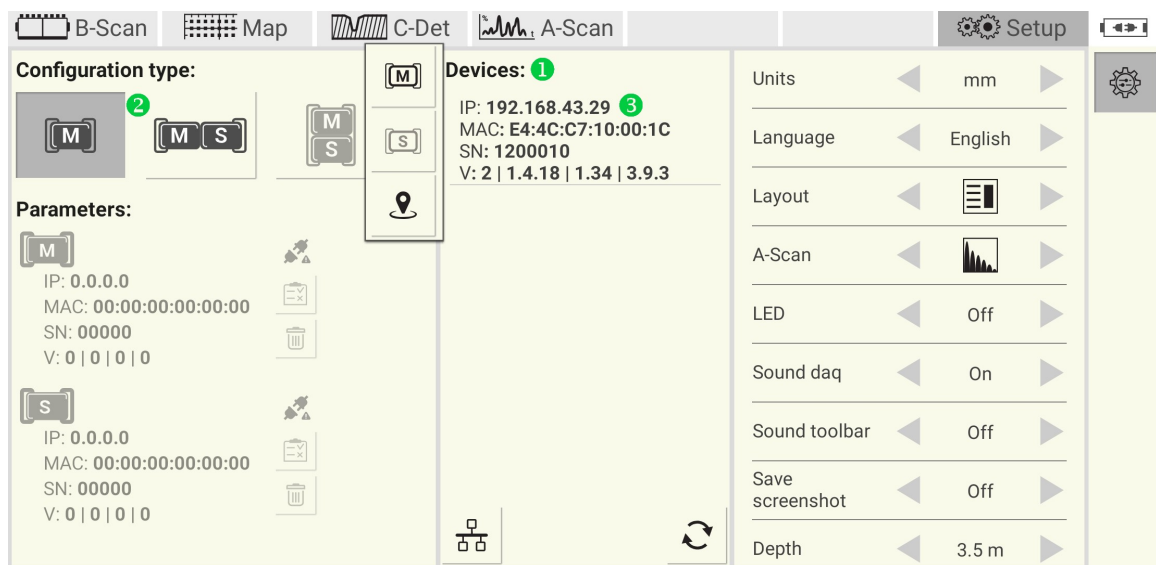

Figure 20: A1040 MIRA 3D configuration
After the scan finishes, the `device list` ① shows all available devices. Select A1040 MIRA 3D-configuration ② and tap on a device item ③ to assign it as a master , Figure 20.